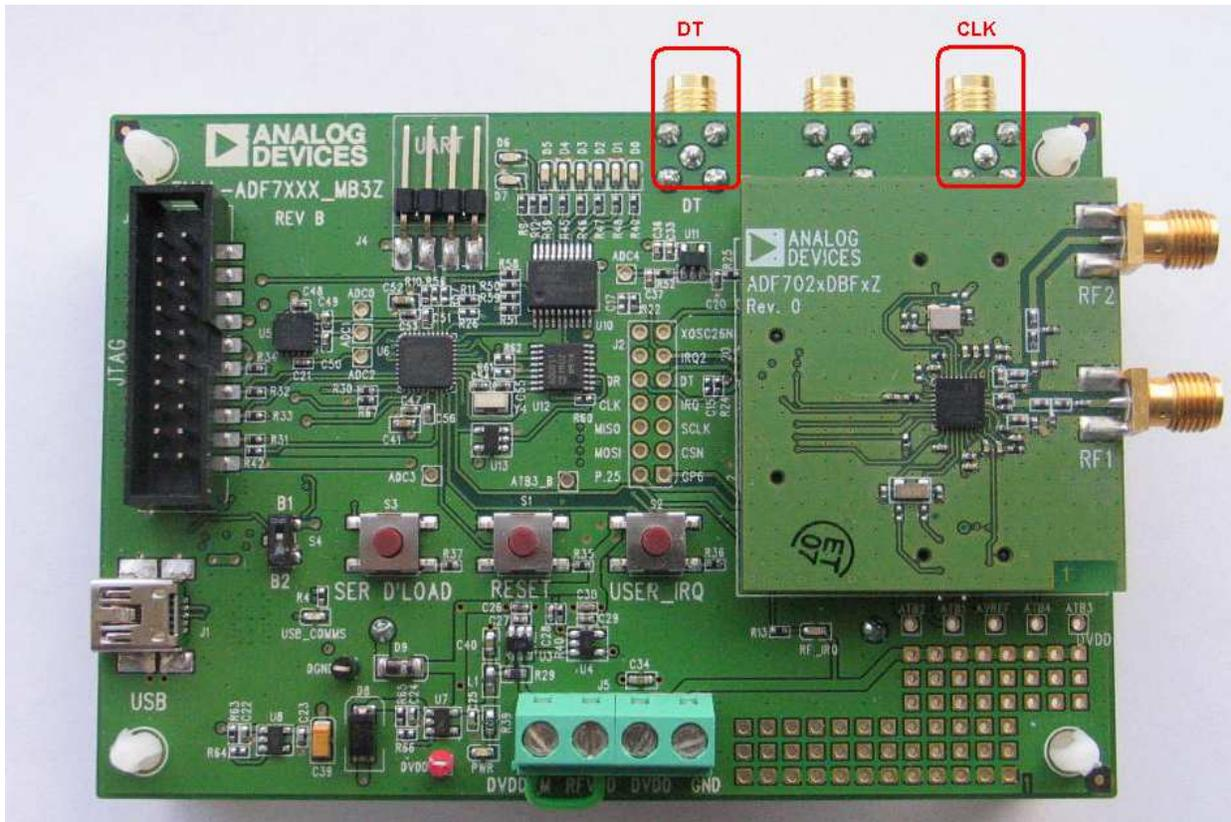

Figure 30
- While in ***PHY Tx*** with SPORT mode enabled, the transmitted data must be synchronized with the output clock seen on the CLK SMA connector on the mother board as shown in (Figure 30)
- The Tx data line, from the users Tx device, should be connected to the DT SMA connector as shown in (Figure 30).